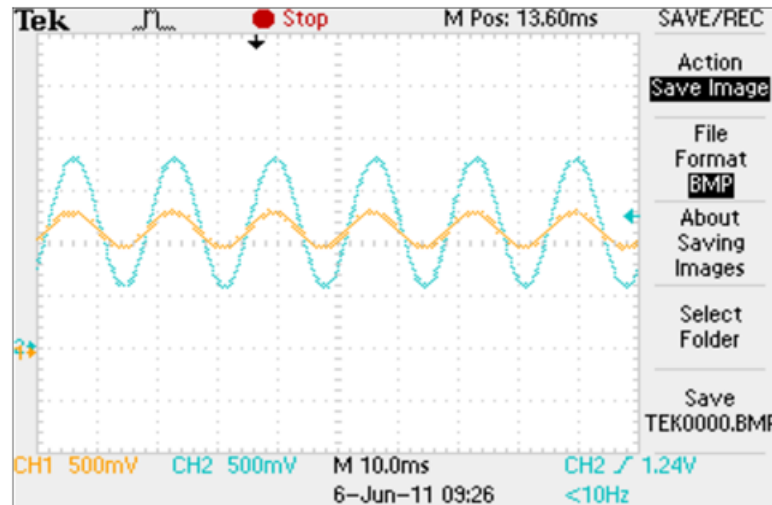

Figure 8. AC Voltage (Blue) and Current (Yellow) Waveform from Analog Output of the Master Controller (C8051F007) as Displayed on the Oscilloscope
12. Turn on the oscilloscope and plug the ac input lines into a source of 110/220 Vac, then turn on the external dc power supply. With the load engaged, the voltage (blue) and current (yellow) waveforms will appear on the oscilloscope as shown in Figure 8. Vary the load to observe the changes in current.